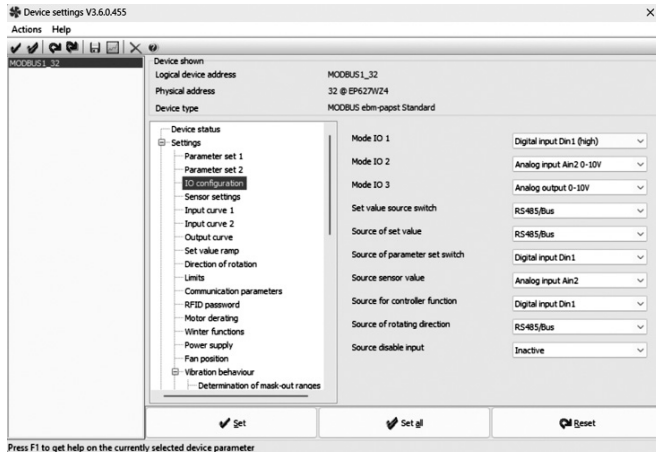

Fig. 18 — EC-Control Setting IO Configuration
- b. Set the following parameters to match Fig. 18.